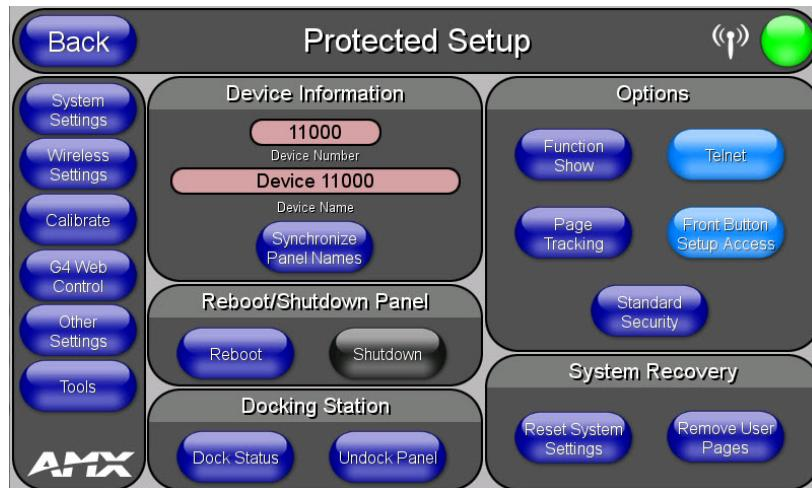

FIG. 18 Protected Setup page
- Press the **Protected Setup** button. This opens a keypad for entry of the password to allow access to the *Protected Setup* page (FIG. 18). Enter the device's password and press **Done** to proceed.